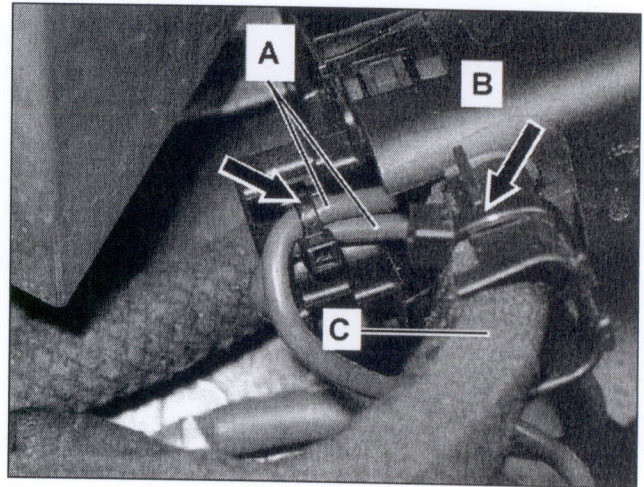

Figure 12
10. Remove cable tie (left arrow, Figure 12) securing ground wires (A) to SBC connector housing (B).
11. Remove cable tie (right arrow, Figure 12) securing SBC wire harness (C) to SBC connector housing (B).